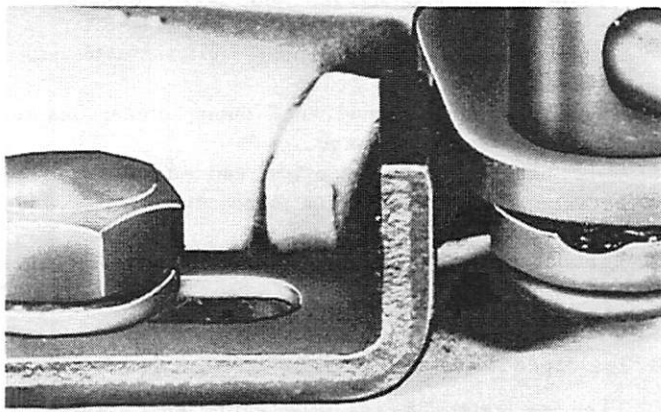

Figure 4. Idle Stop Bracket
2. Idle engine and adjust "idle stop bracket" (Figure 4) so that engine idles at 500 RPM in forward gear.